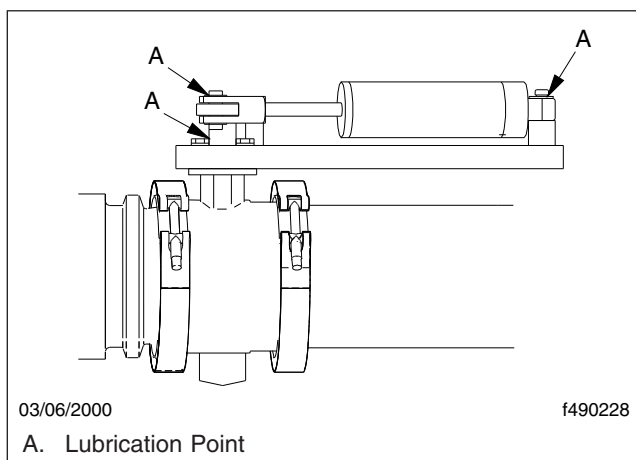

Fig. 7.24, Pacbrake Exhaust Brake and Air Cylinder
1. With the engine shut down, use any oil-free or nonpetroleum-based high-heat lubricant, and spray or coat a sufficient amount on the restrictor valve shaft and the attaching locations at each end of the actuation cylinder. See Fig. 7.24.